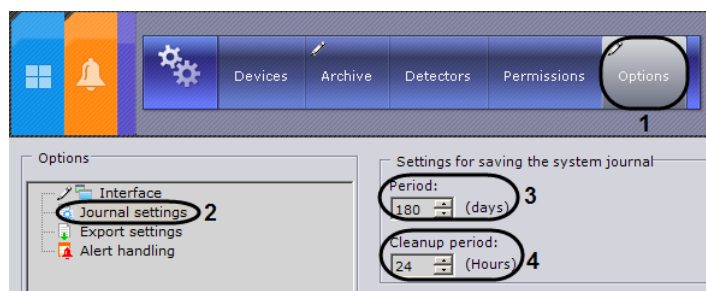

Fig. 6.7—1 Configuring the system journal
1. Go to **System settings**⇒**Options**⇒**Journal settings** (Fig. 6.7—1, 1-2).
2. In the **Period** field, enter in days the period for which the system journal will be stored in the server's database (see Fig. 6.7—1, 3).
3. In the **Cleanup period** field, enter in hours the period after which irrelevant events will be removed from the system log (see Fig. 6.7—1, 4). The following events are considered irrelevant: